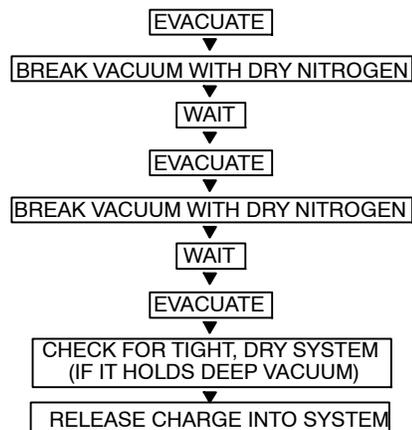

Fig. 21 – Triple Evacuation Method
The triple evacuation method should only be used when vacuum pump is only capable of pumping down to 28 in. of mercury vacuum and system does not contain any liquid water. Refer to Fig. 21 and proceed as follows:
5. Repeat this procedure as indicated in Fig. 21. System will then be free of any contaminants and water vapor.